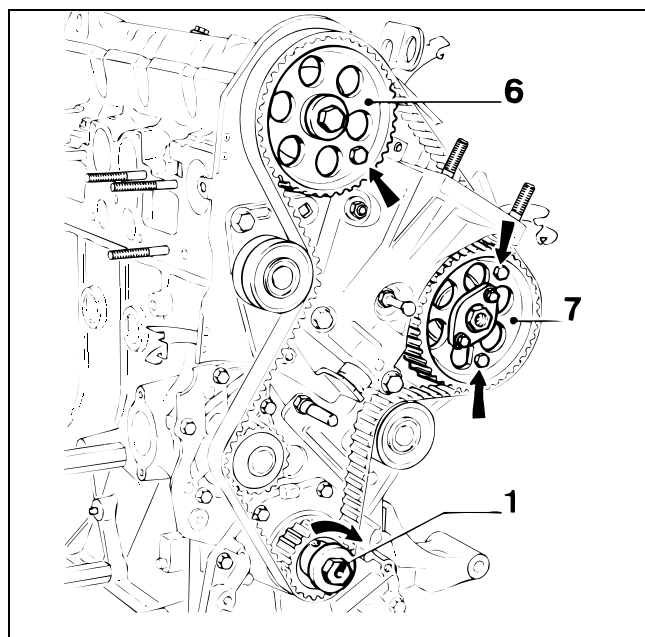

Figure 44
4. Re-install the crankshaft bolt (Fig. 44, Item 1) and the washer.